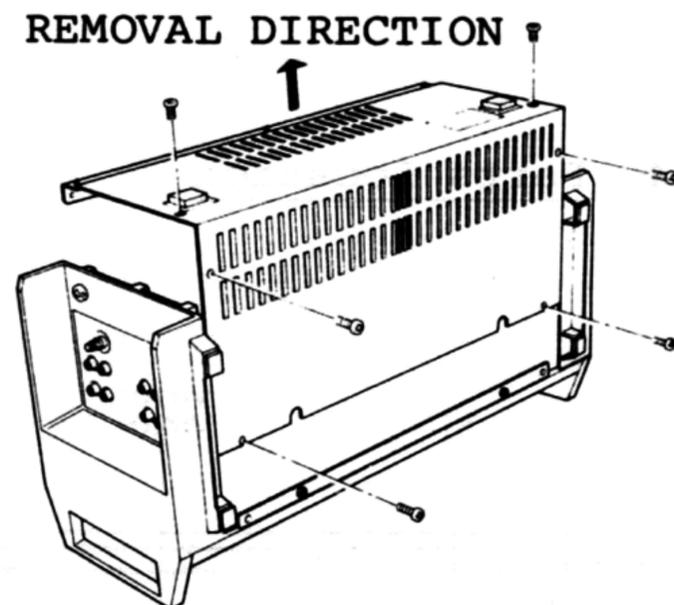

Fig.2
- 2) Remove 2 screws from the rear and four screws from the bottom as shown in Fig.2.